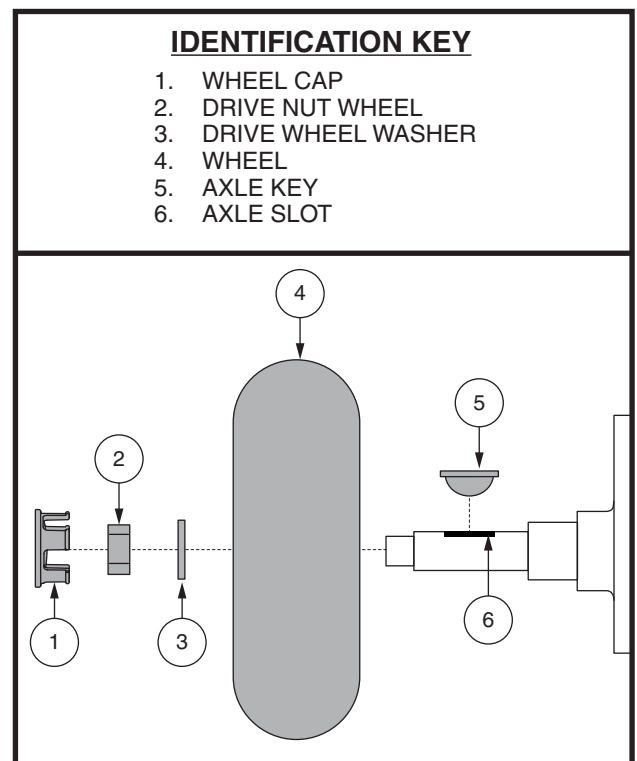

Figure 25. Wheel Removal
3. Remove the wheel cap, drive wheel nut and washer from the axle. **See figure 25.**
4. Remove the drive wheel nut and washer from the axle. **See figure 25.**
9. Slide the wheel back onto the axle. Make sure that the axle key is in the axle slot. **See figure 25.**